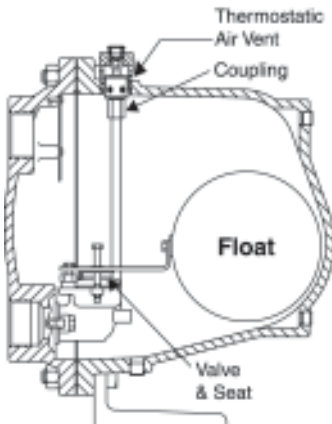

Figure 6
- 6) Inspect all of the moving parts. Remove all worn or damaged parts and replace them with new parts. Figures 6, 7, and 8 show all critical or moving parts. Check that each item is in good condition and operates normally. Check the float for pinhole leaks, dents or corrosion. Immerse in hot water and look for air bubbles to detect pinhole leaks.